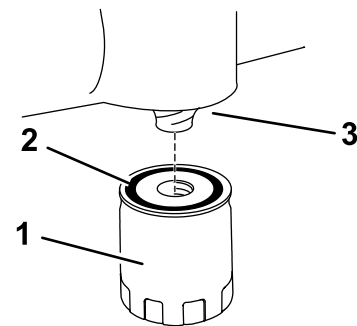

Figure 32
- Install the replacement oil filter to the mounting pad. Turn the oil filter clockwise until the rubber gasket contacts the pad, then tighten the filter an additional 2/3 to 1 turn (Figure 32).